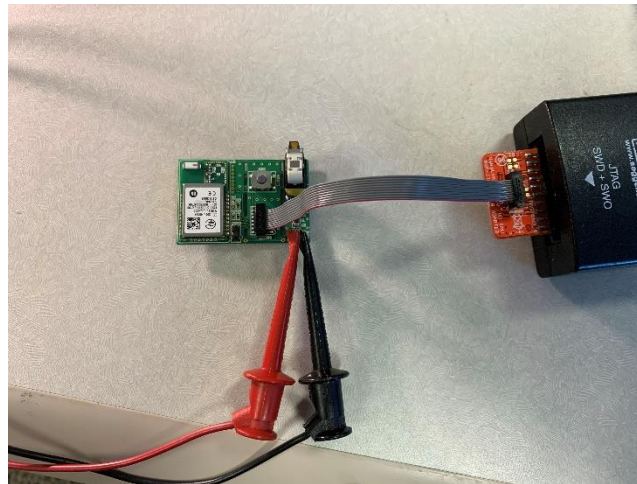

Figure 10: J-Link connection to USB Board
1. Connect the J-Link to the board as shown in figure 10.
2. Power the board with a 3.3V DC supply, as shown in figure 10.